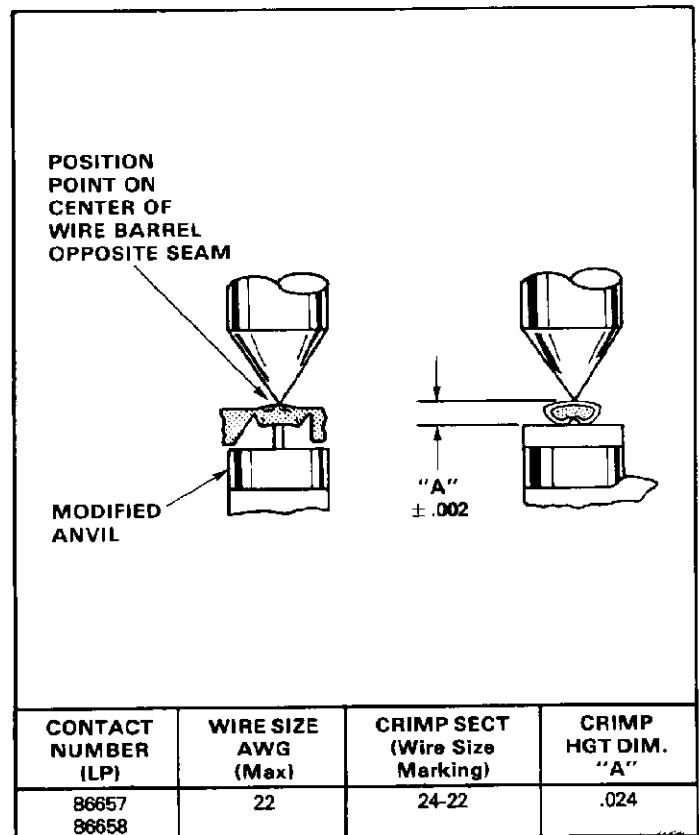

Fig. II-2
This inspection requires the use of a micrometer with a modified anvil as shown in Figure II-2. We recommend the modified micrometer (Crimp Height Comparator RS-1019-5L) which can be purchased from:
1. Refer to the chart in Figure II-2, and select a contact and a wire (maximum size) for each crimp section listed in the chart.
3. Using a crimp height comparator, measure wire barrel crimp height as shown in Figure II-2. If the crimp height conforms to that shown in the chart, the tool is considered dimensionally correct. If not, return the tool to AMP for evaluation and repair (see Paragraph II-3, REPAIR).
1. Select a contact and wire (maximum size) for the tool (see Figure II-2).